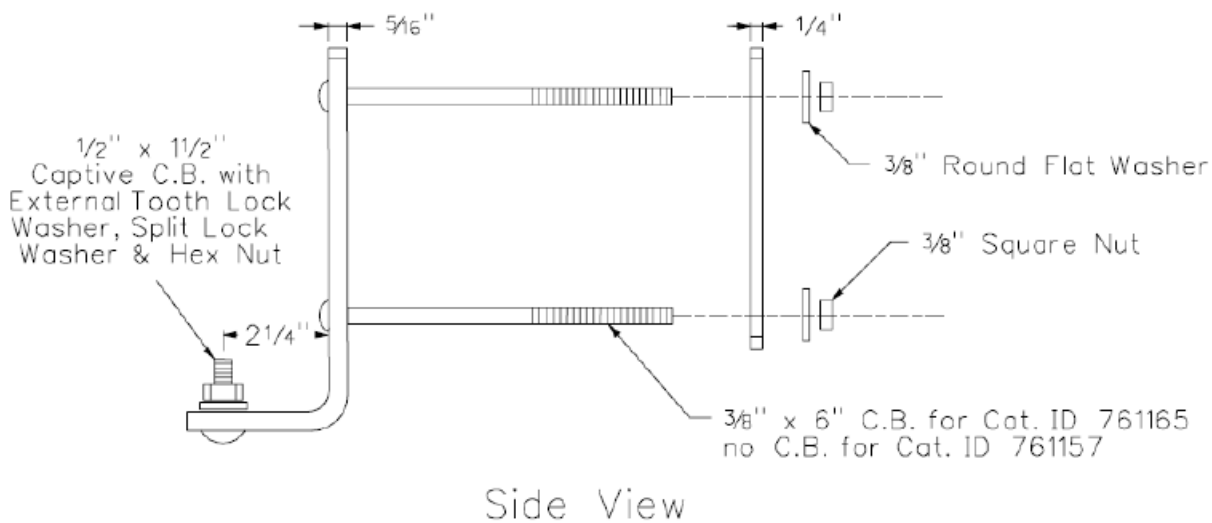

FIGURE 1
Brackets shall be dimensioned as shown in Figure 1 on page 2 of this document.
7.1 As shown in Figure 1, each mounting bracket shall be equipped with a press fit captive 1/2" x 1-1/2" hot dip galvanized steel carriage bolt. A hot dip galvanized steel external tooth lock washer, split lock washer and hex nut shall be assembled on the captive carriage bolt.